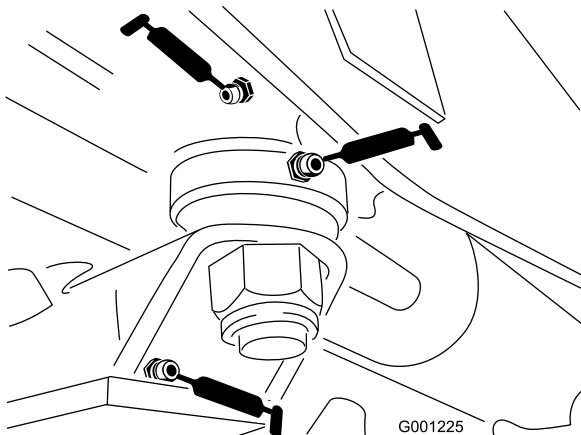

Figure 36
- Steering plate bushings (Figure 36)
- Axle pin bushing (Figure 36)